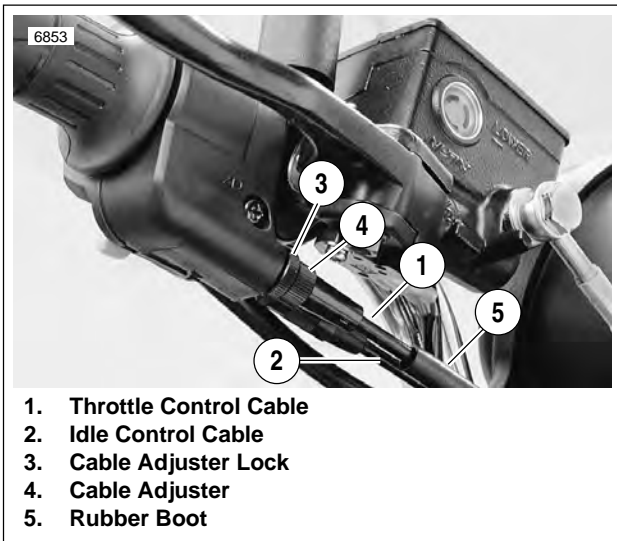

Figure 2-85. Throttle Control Cables
1. See Figure 2-85. Slide rubber boot (5) off the cable adjusters (4). Loosen cable adjuster lock (3) on each adjuster.